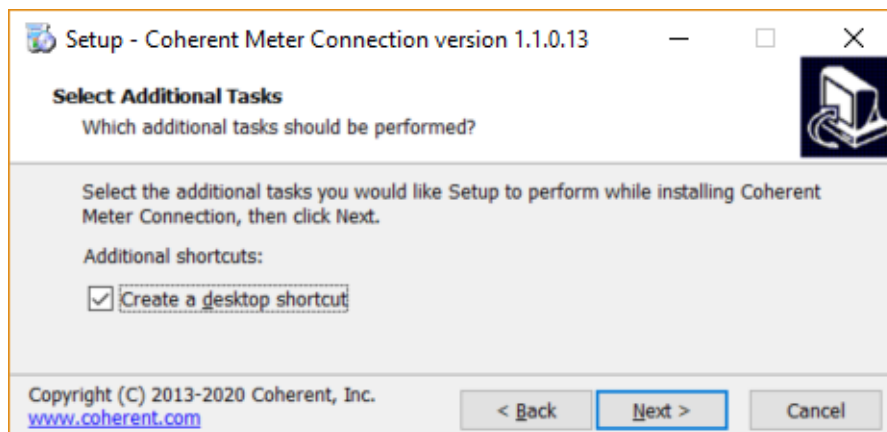

Figure 3-6. Create Desktop Icon
7. To create an icon for a shortcut to the application on the desktop, click the check box, as shown in Figure 3-6, and then click Next.